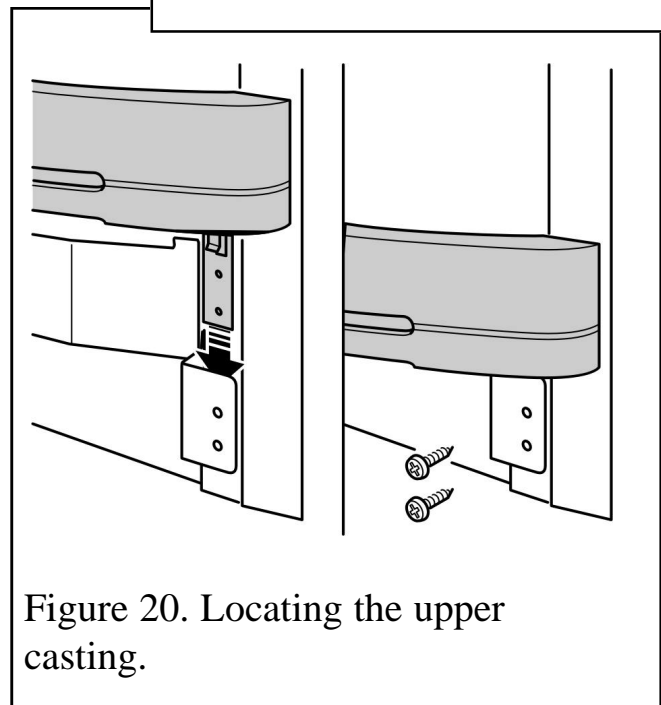

Figure 20. Locating the upper casting.
2. The upper part of the casting has two 'legs'. Locate the 'legs' behind the brackets and secure using the four taptite screws supplied, but do not tighten the screws (See figure 20).